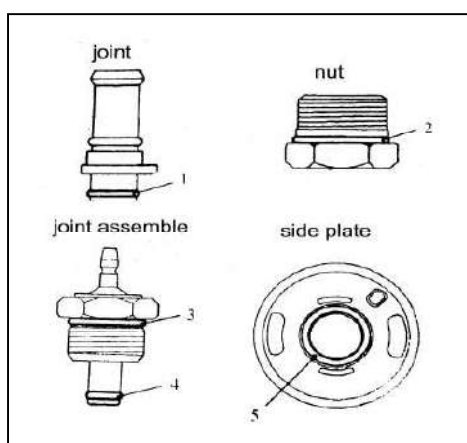

Fig 17-52
(1) O-RING INSTALLATION(See fig 17-52)